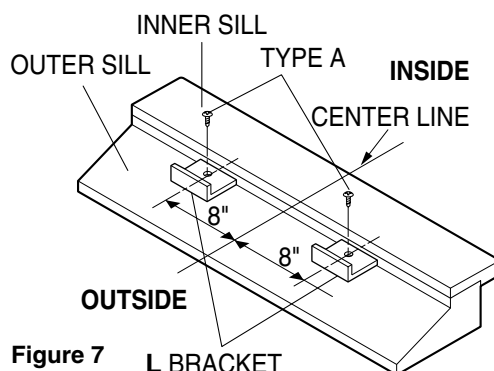

Figure 7
- b. The bracket helps to hold unit securely in place. Be sure to place bracket edge flush against back of inner sill. See Figure.7.
- a. Carefully lift the air conditioner and slide it into the open window. Make sure the bottom guide of the air conditioner drops into the notches of the L bracket. See Figure. 7.